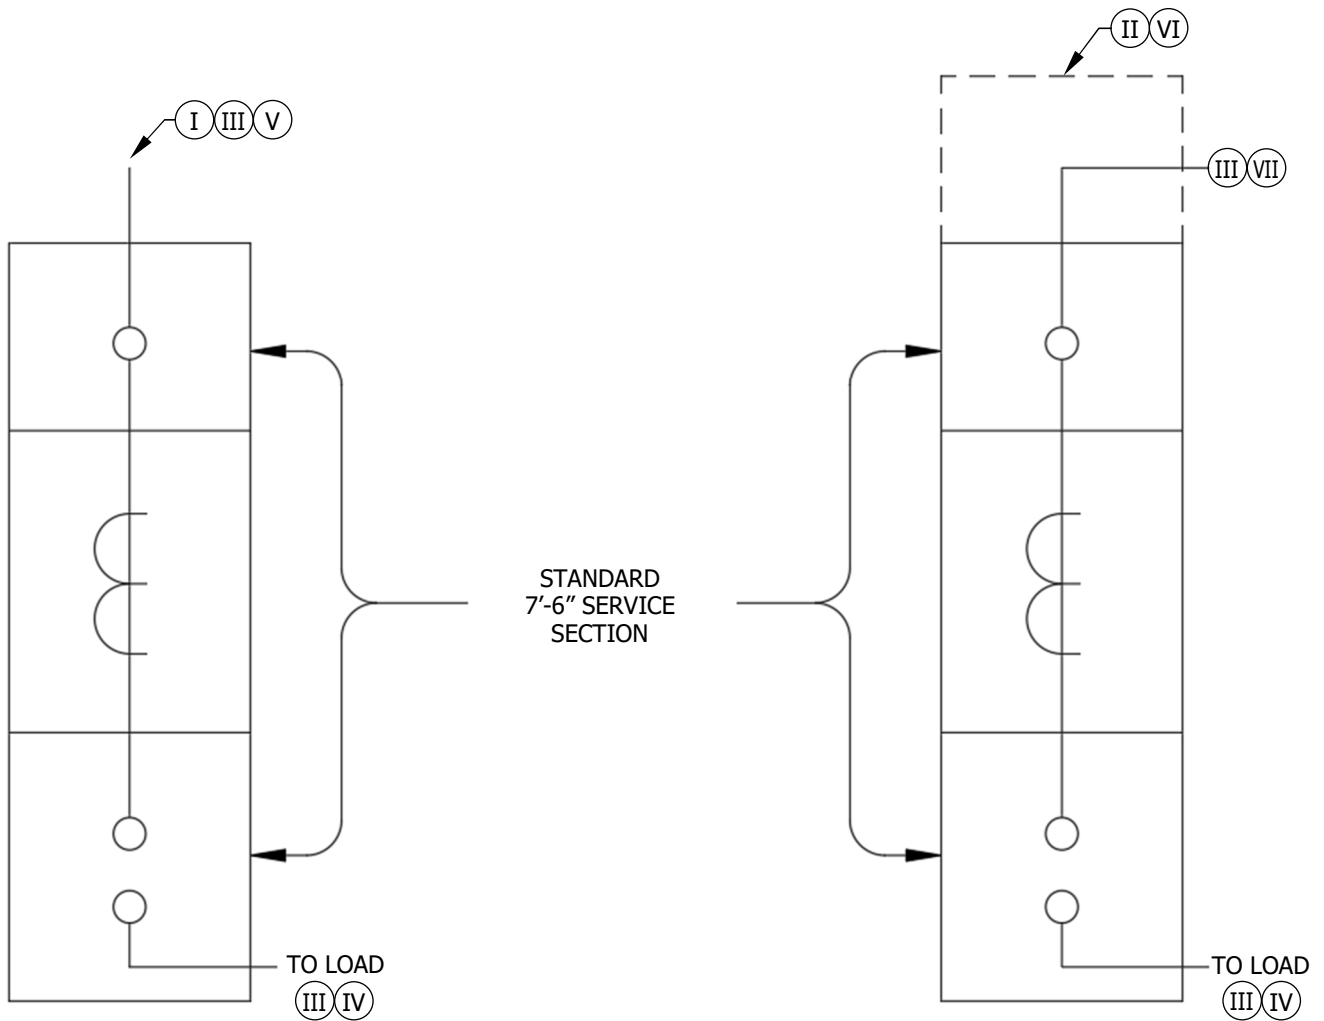

FIGURE 1
- ① SERVICE ENTRANCE CONDUCTORS AS SHOWN IN FIGURE 1, EITHER CABLE OR BUS BAR, ARE FURNISHED AND INSTALLED BY CUSTOMER IN THE FOLLOWING MANNER: